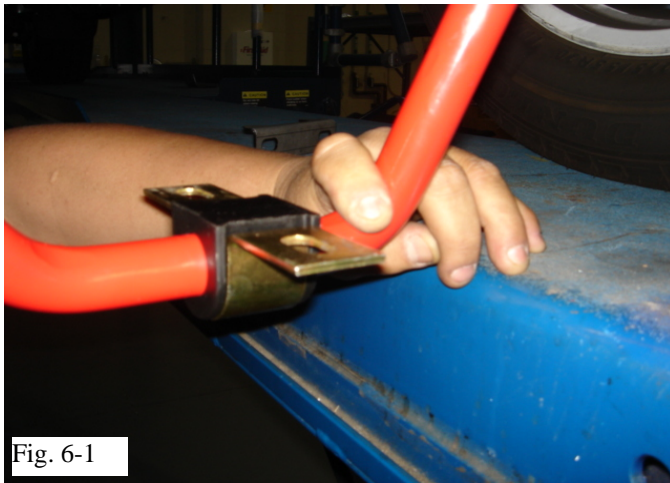

Fig. 6-1
- (c) Slide the bushing brackets over the bushings (Fig. 6-1)